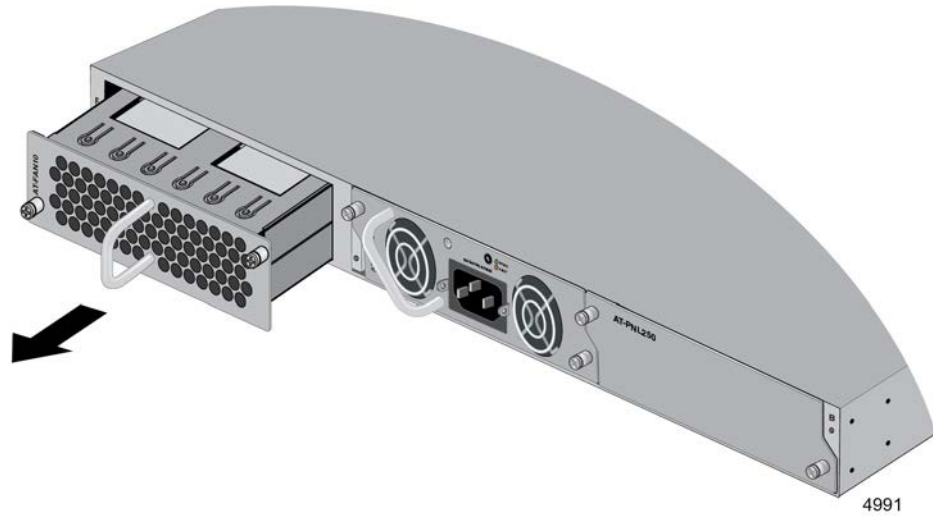

Figure 74. Removing the FAN10 / FAN10R Module from the Switch
2. Carefully pull on the handle to disconnect the module from the internal connector in the switch, and slide it from the switch. Refer to Figure 74 on page 174.